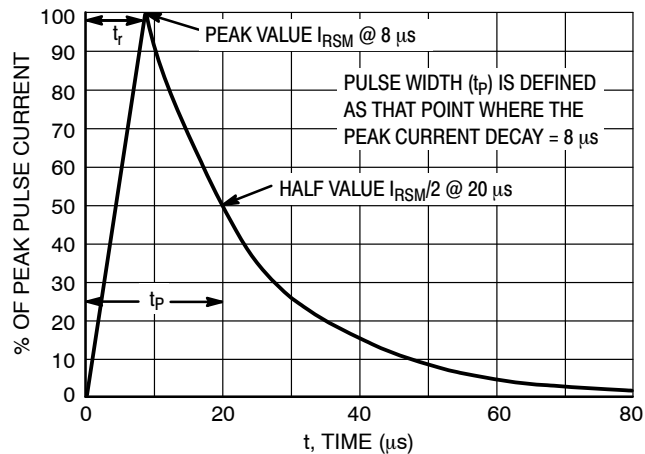

Figure 5. 8 X 20 μ s Pulse Waveform
- Surge current waveforms per Figure 5.